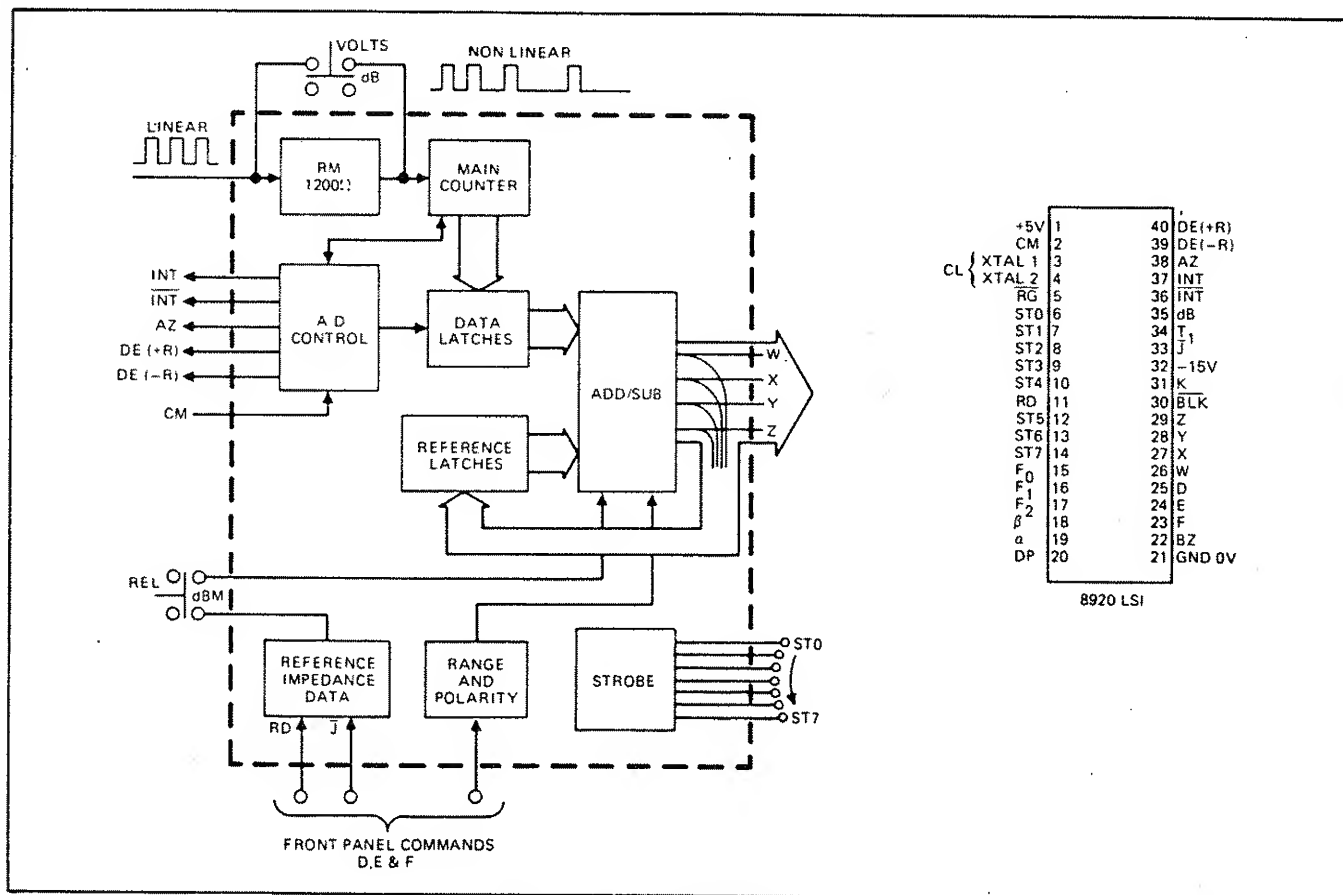

Figure 3-7. Controller Functions
Display and Annunciators will be described immediately after this section on the Controller. A summarized description of each input and output pin used on the Controller is given in Table 3-2 and shown in Figure 3-7.
3-32. To make a voltage measurement the Controller must linearly count clock pulses for a time determined by the A/D Converter. Referring to Figure 3-7, you can see that when the dB/VOLTS switch is placed in its up (out) position the rate multiplier (RM) will be shunted and the main counter will count the number of clock pulses exactly as they occur (linear). As soon as the integrator in the A/D Converter reaches the auto-zero point, CM will go high, commanding the main counter to stop counting and simultaneously shifting its count to the data latches. What is now held in the data latches is a count of clock pulses, in bcd format, that is proportional to the true rms value of the signal being measured. The bcd data is then shifted out of the controller, to a seven-segment decoder on four lines: W, X, Y and Z.
3-34. If the dB/VOLTS switch is in the dB position, a non-linear count of the clock pulses is enabled. The binary rate multiplier (RM) passes only a fraction of the clock pulses on to the Controller's main counter (see the illustrated input to the main counter on Figure 3-7). This count approximates the logarithmic curve of the dB scale and, like the VOLTS mode, is stored in the data latches.
3-38. Referring to Figure 3-7, let's assume that a 600 ohm reference impedance is selected and the instrument had previously made a relative measurement. Strobe zero
3-41. Referring the Figure 3-7, you can see that upon selection of the REL mode, the reference impedance data line will be disabled. However, to make a relative reference measurement the controller must use an initial reading, and to obtain an initial reading it must use a